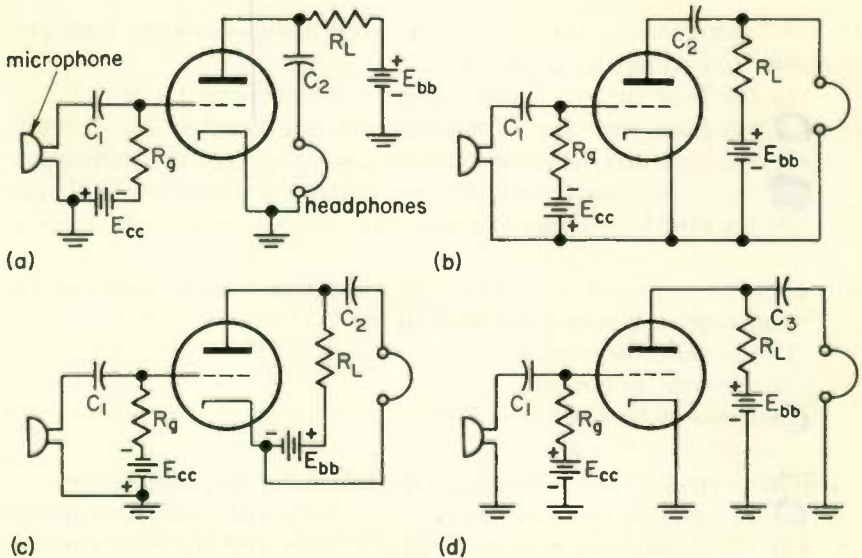

Fig. 45
15. Which diagram of Fig. 45 (if any) shows a simple one-tube amplifier correctly wired?